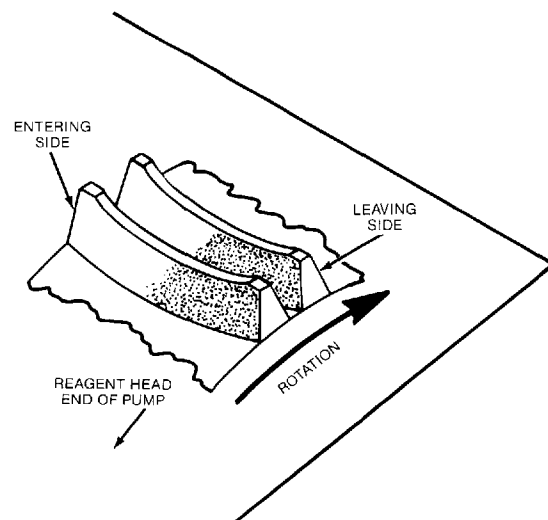

Fig. 56
8. Look at the contact pattern on the driven side of the worm wheel teeth, compare it with Figure 56. Contact should appear in the center of the tooth and continue to the leaving side. If the contact pattern is not correct it can be changed by moving shims from one bearing block to the other. Remove shims on the same end of the shaft as the direction in which you want the contact pattern to move. For example, if the contact pattern is on the entering side of the wheel, remove shims from the bearing block closest to the wheel and place them on the opposite block. A different combination of shims may be used to obtain the proper adjustment however, the total thickness must be the same as determined in Step 4, or the bearing preload will be changed.